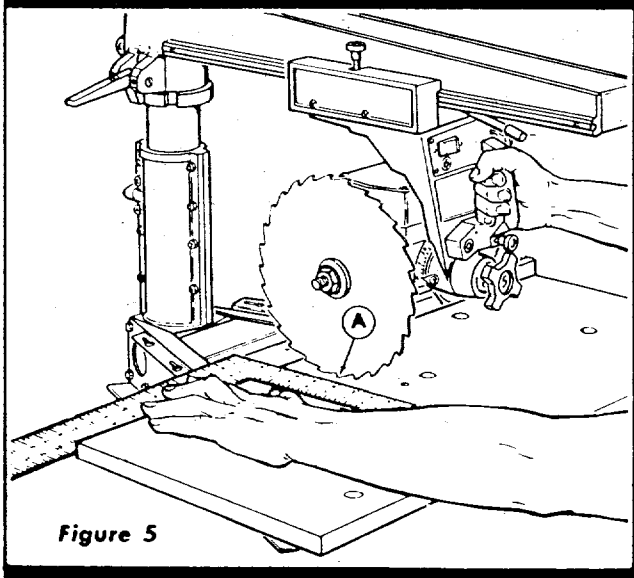
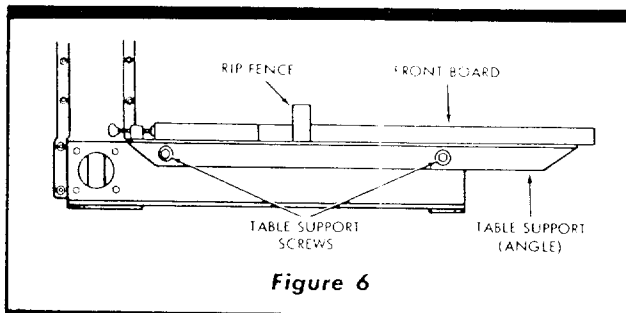
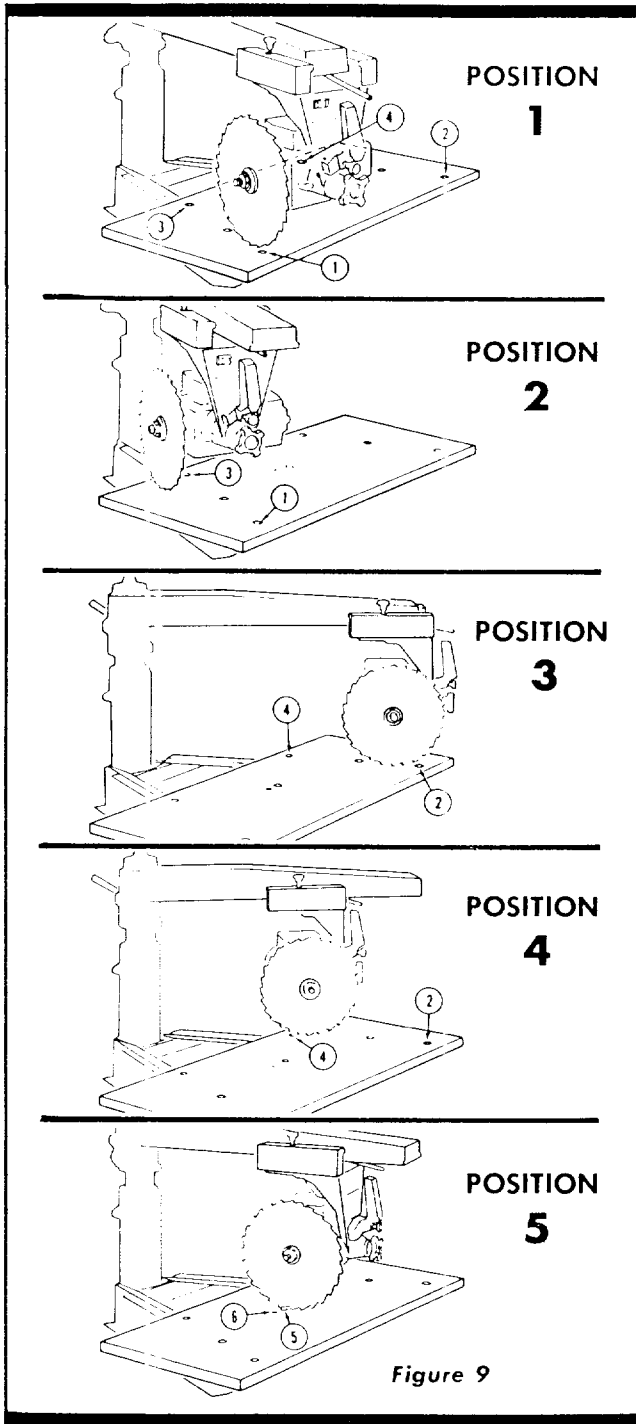

Figure 5
Figure 6
Figure 9
2. Place a square on the table as shown in figure 5 and position the saw and square until the leg of the square just contacts a tooth of the saw blade. (Position "A", figure 5.) Mark this tooth with crayon or chalk.
- a. If saw tooth ("A", figure 5) moves away from the square when moving the blade from the rear toward the front of the table, loosen the table screws at the left side and tap the rear edge of front board forward until the table is square with the saw blade. (See figure 6.)
3. Lower the saw blade by rotating elevation crank until a tooth just touches the table at the highest spot when saw is moved to points 1, 2, 3, and 4 (POSITION 1, figure 9). This will locate the table high point. Spin the saw blade by hand and listen for "pinging" sound to pick up this high point.
4. Loosen the table support screws at each side just enough to allow the table support angles to slip when tapped with a mallet. (See figure 6.) If too loose, leveling operations will be difficult.
5. Move the saw blade to the low position opposite the high point (located in step 3, above) at the same end of table. Assuming the high area to be at point 1 (POSITION 1, figure 9) the blade would next be moved to point 3 (POSITION 2, figure 9).
7. Tighten the two table support screws securely at the left side of frame (figure 6), and recheck by moving saw blade back and forth between points 1 and 3 (POSITION 2, figure 9). If this end of table surface is level, the saw will just touch the table at points from 1 to 3. If not level, readjust point 3.
8. Move the saw blade to point 2 (POSITION 3, figure 9). Tap forward end of right table support angle upward with a mallet until the blade just touches the table surface.
9. Move the saw blade to point 4 (POSITION 4, figure 9) and tap rear end of table support angle upward until the blade just touches the table surface.
10. Tighten the two table support screws securely at the right side of frame (reference figure 6), and move saw blade back and forth between points 2 and 4 (POSITION 4, figure 9) to make sure it touches at all positions from points 2 and 4.
12. After preceding leveling operations are complete, move saw blade to the center of table to check for proper table height at points 5 and 6 (POSITION 5, figure 9). The table attaching screw at point 5 pulls table downward when tightened and the leveling screw at point 6 pushes table upward when tightened (provided screw at point 5 has been loosened). Thus, these two screws work against each other to adjust the center area of saw table. Both screws should be tight, however, when leveling has been completed.